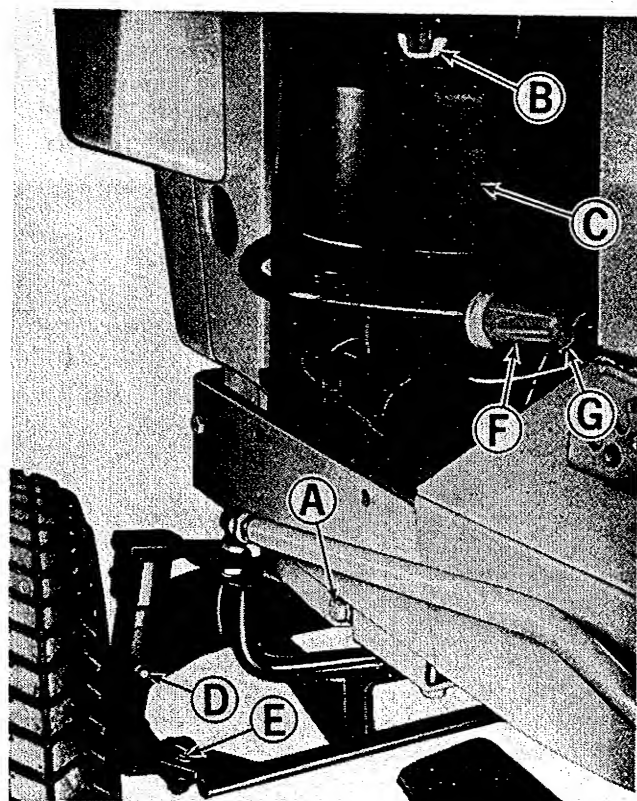

Figure 20. Left front of tractor.
2. See figure 20. Remove the drain plug (A) from the bottom of the engine base and allow the oil to drain.
1. See figure 20. Remove the wing nut (B) and cover (C) from the air cleaner unit.
5. See figure 20. Replace the air cleaner cover (C) and fasten it securely with wing nut. (B).
Left Spindle	Figure 20, Item D
Left Tie Rod End	Figure 20, Item E
1. See figure 20. Remove wing nut (B) and cover (C) from the air cleaner.
7. See figure 20. Replace cover (C) and wing nut (B) and tighten securely.
REPLACE FUEL FILTER: See figure 20. Every 100 hours or more often under dirty field conditions, the fuel filter (F) should be replaced. **CAUTION: DO NOT REMOVE THE FUEL FILTER WHEN THE ENGINE IS HOT, ASPILLED GASOLINE MAY IGNITE. USE CARE WHEN REMOVING AND INSTALLING CLAMPS (G), NOT TO SPREAD THEM ANY MORE THAN NECESSARY AS THEY MAY TAKE A SET AND NOT HOLD THE HOSE TO THE FILTER PROPERLY.**